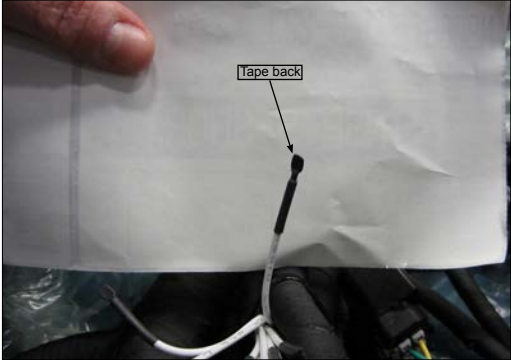

Figure 5 - Extract Wires and Reconnect with New Wires of the Wire Kit
- 1.6. Raise the bus, open the ECM connector back shell, remove the red lock and extract the terminals and wires from the ECM connector for the APS1 and APS2. Tape back using N27548-18 on all wires that were cut or disconnected. For APS1 use positions 9, 10 and 33. For APS2 use positions 61 and 64. Install the five new wires of the wire kit. Reassemble the connector and lower the vehicle (see Figure 5).